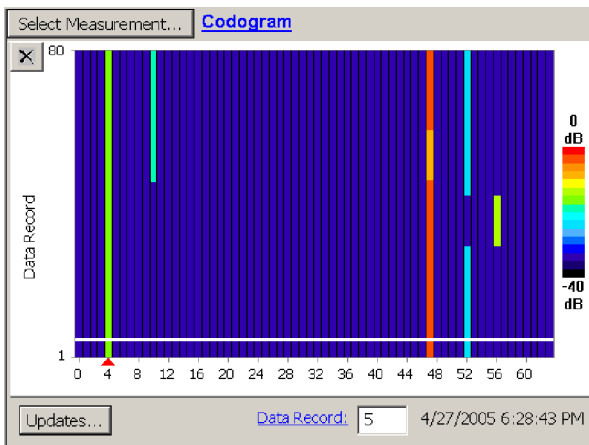

Figure 3-57: 1xEV-DO codogram display
4. Tap **Codogram**. See Figure 3-57.